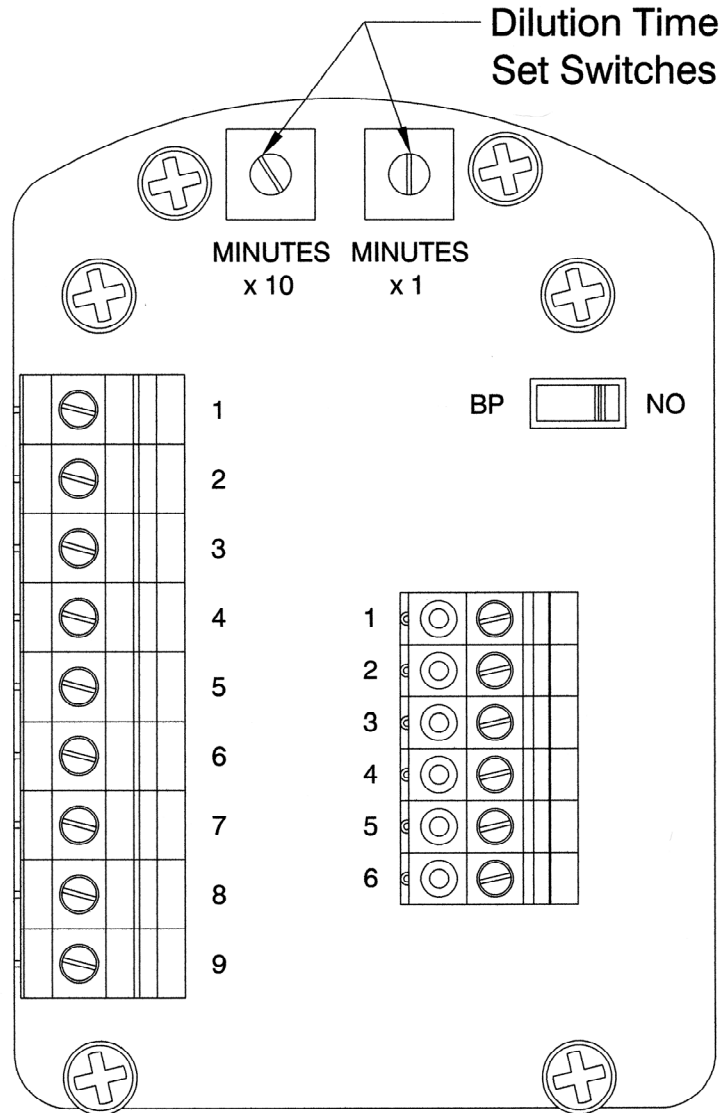

Figure 2
With enclosure door open to access the TRYCLOPS X – Purge Controller, SM Version set automatic dilution time cycle to least five (5) times the volume of free space in the electronics enclosure is exchanged before power is automatically applied to the electrical equipment from the TRYCLOPS X – Purge Controller, SM Version. ***Refer to Figure 2 for location and details of dilution time switches in TRYCLOPS X – Purge Controller, SM Version.***